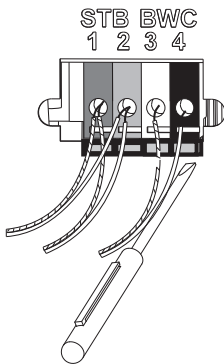

FIG. 1
4. Note locations and remove BWC (Basic Wall Control) and STB (Safe-T-Beam®) wires. Use small screwdriver to press in on orange tabs to remove wires. FIG. 1.